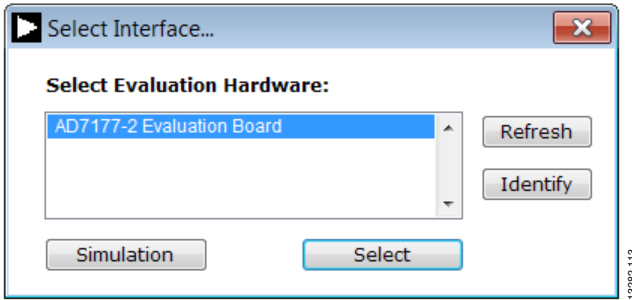
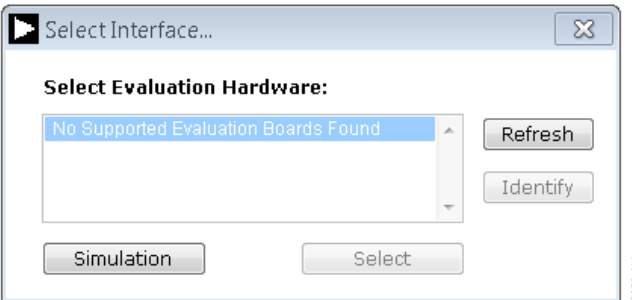
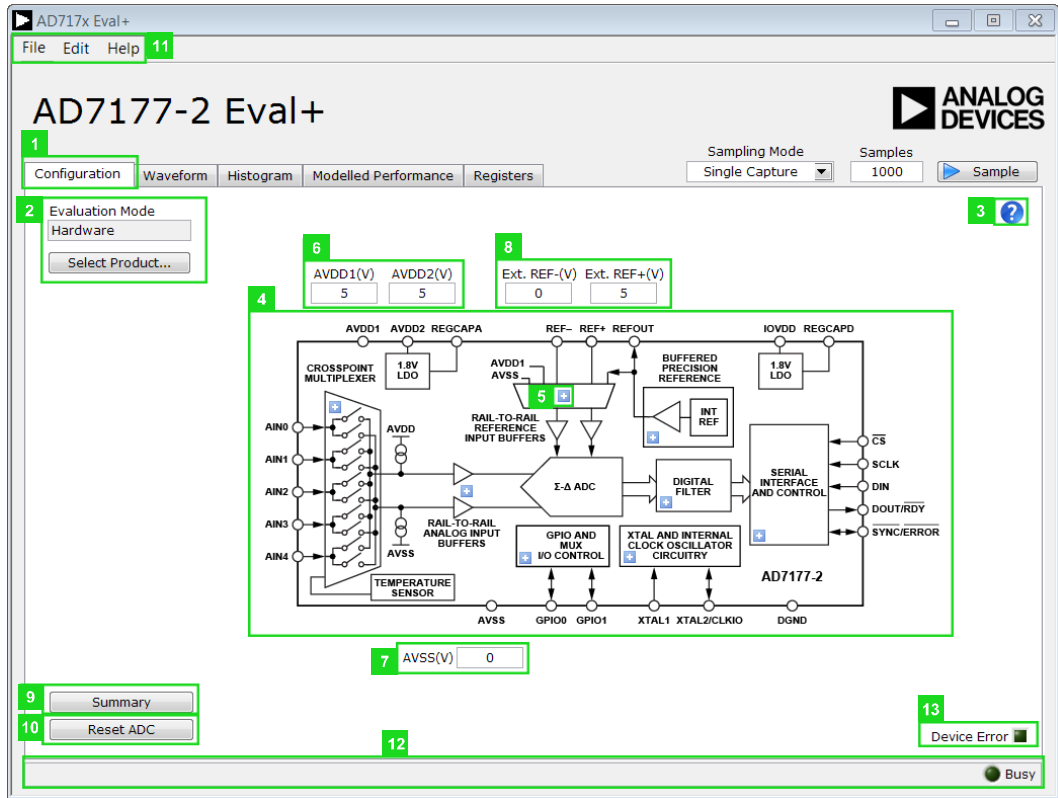
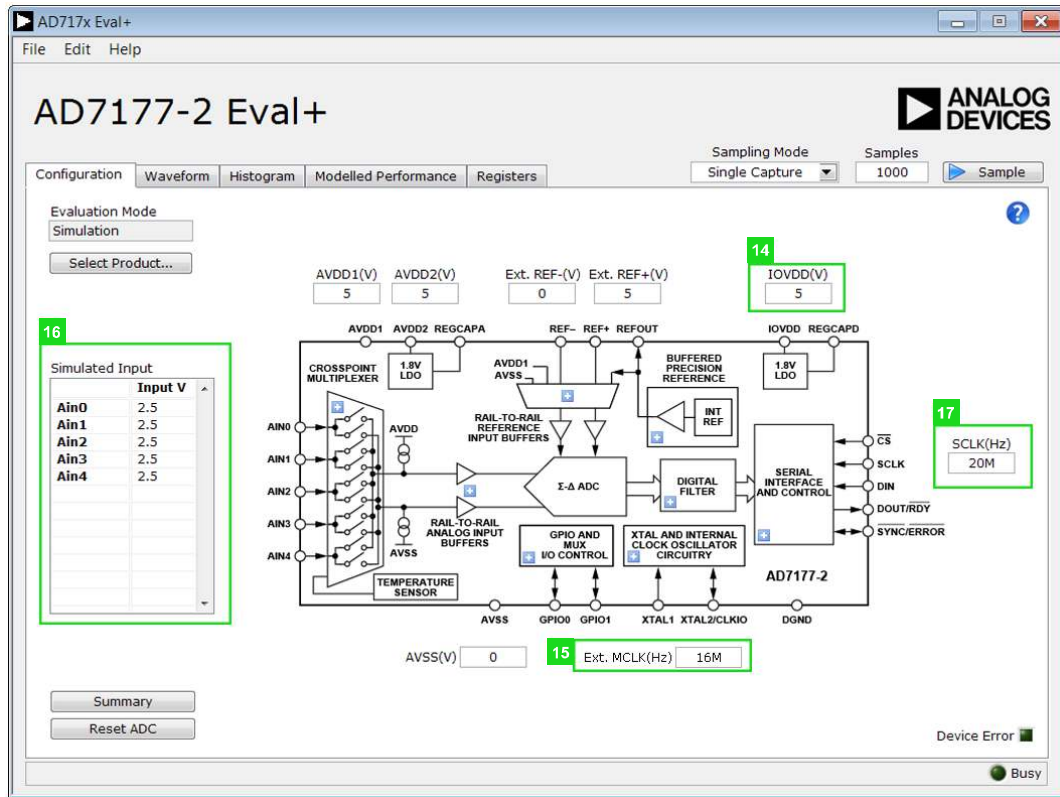

Figure 13. AD7177-2 Evaluation Board Selection
Figure 14. Evaluation Board Selection, No Board Connected
Figure 16. Configuration Tab of the AD717x Eval+ Software in Hardware Mode
Figure 17. Configuration Tab of the AD7177x Eval+ Software in Simulation Mode
2. The dialogue box in Figure 13 appears; select **AD7177-2 Evaluation Board** and click the **Select** button. The main window of the software box displays as shown in Figure 16.
3. If the EVAL-AD7177-2SDZ evaluation system is not connected to the USB port via the SDP-B when the software is launched, the software displays the dialog box shown in Figure 14. Connect the evaluation board to the USB port of the PC; wait a few seconds, click **Refresh** and the option shown in Figure 13 appears.
Figure 16 shows the **Configuration** (1) tab when **Hardware** mode is selected and Figure 17 shows the **Configuration** tab when **Simulation** mode is selected. The controls highlighted in Figure 17 are only available in **Simulation** mode.
The **Evaluation Mode** (2) pane displays the evaluation mode in use. To switch between modes, click the **Select Product...** button, and the dialog box shown in Figure 13 appears.
The text fields labeled 6, 7, and 14 in Figure 16 and Figure 17 are input fields that are used to take the supply voltage levels selected for the AD7177-2. Checks are performed to ensure that the power supply voltage levels entered are within the specified limits. These power supply voltage levels are also used for the modelled performance to calculate the power dissipation.